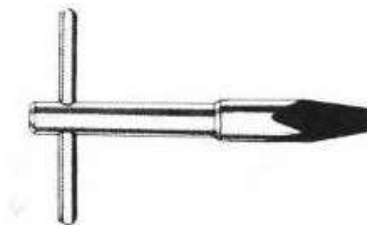

Figure 51
- (1) Disable all power to the engine to prevent propeller rotation and engine start. Disconnect ignition leads from all spark plugs.
- (2) If not already done, remove the Heli-Coil® insert from the spark plug hole as follows:
- (a) Insert the T-shaped Removing Tool P/N 64595 (Figure 51) in the spark plug hole. Press the tool down firmly for the edge of the tool to cut into the top thread of the insert.